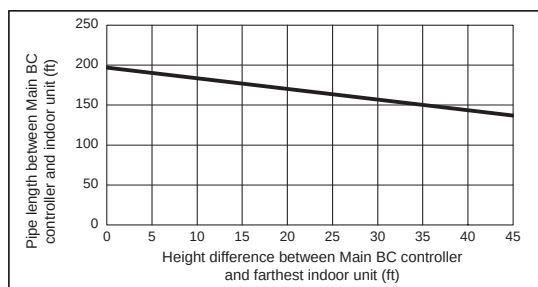

Fig. 2
*2. Details refer to Fig. 2.
*7. When the piping length or the vertical separation exceeds the limit specified in Fig. 2, connect a sub BC to the system. The restriction for a system with a sub BC connection is shown in Fig. 3. When a given system configuration falls within the shaded area in Fig. 3, increase the size of the high-pressure pipe and the liquid pipe between the main BC and sub BC by one size. When using P12, P15, P18, P36, or P48 model of indoor units, increase the size of the liquid branch pipe between the sub BC and indoor unit by one size.
When using indoor models P54 or larger, the restrictions shown in Fig. 2 cannot be exceeded.
*7. When the piping length or the vertical separation exceeds the limit specified in Fig. 2, connect a sub BC to the system.